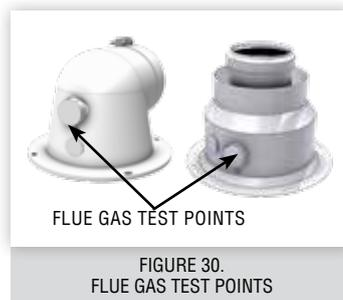

FIGURE 30.
- 17.3.8 Check combustion by connecting the flue gas analyser to the flue gas sampling point and measure the CO & CO2. See Figure 30.